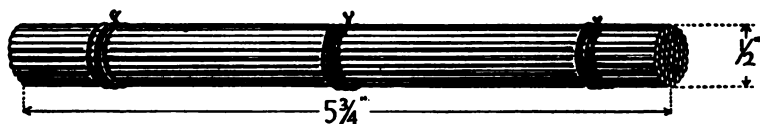
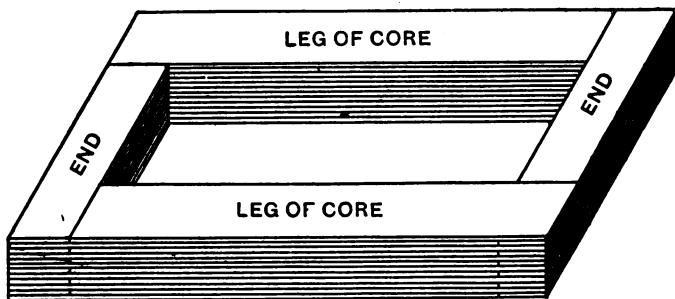
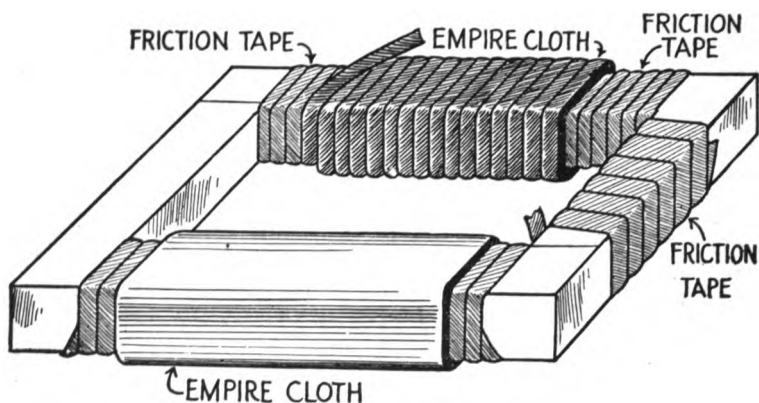

FIG. 178.—CORE OF COIL.
FIG. 189.—CORE OF TRANSFORMER.
FIG. 191.—HOW TRANSFORMER CORE IS INSULATED.
Having made the base your next move is to tackle the coil itself and you will find this part of the job very interesting and very particular. Buy  $\frac{1}{2}$  a pound of black soft iron wire about No. 18, 20 or 22 Brown and Sharpe gauge, at a hardware store and cut the wire up into pieces exactly  $5\frac{3}{4}$  inches long. When you have enough to make a bundle  $\frac{1}{2}$  inch in diameter straighten out each piece so that there are no kinks in it. Next put all the wires together with their ends even and tie them with a string so that a round core  $\frac{1}{2}$  inch in diameter will result as shown in Fig. 178.
Next slip one end of a No. 16 Brown and Sharpe gauge, double cotton-covered magnet wire—ordinary bell wire will do—which is 25 feet or a little longer, through the hole in the cheek that is nearest the core and leave about four inches hanging out. Wind a layer of wire on the core and give it a good coat of shellac. Wrap on a layer of paper and then wind on the second layer of wire and be sure to put it on tight. This will bring both ends of the primary wire out of the same cheek as shown in Fig. 189, and this cheek should be the one through which the end of the core projects. Wrap a couple of more layers of paper round the primary coil and shellac it.
Like an induction coil a transformer has a core of soft iron, a primary coil and a secondary coil, though nearly all induction coils have *straight* soft iron cores like that shown in Figs. 178 and 179, Chapter II, Part III, while nearly all transformers have *rectangular* soft iron cores, as that shown in Fig. 189.
**The Soft Iron Core.**—The core of the transformer is made up of very thin strips of soft sheet-iron laid up in the form of a rectangle as shown in Fig. 189. Sheet-iron such as is used for making stove-pipes will do for the core and this can be bought at a tinsmith's. Have him cut it for you to the exact width and length needed with his foot-power shears so that when the core is formed it will be nice and even.
After the core is laid up as shown in Fig. 189, wrap the two sides, or *legs* and one of the ends with *friction tape*. Friction tape is the kind of tape electricians use for taping wire joints. This kind of tape comes in rolls about  $\frac{1}{2}$  inch wide. Wrap this tape on the core tightly lapping the edges of the tape, as shown on one of the ends in Fig. 191.
Now cut some *empire cloth* into strips 8 inches wide and wind enough of the strips on each *leg* of the core to make the cloth insulation about  $\frac{1}{4}$  of an inch thick. *Empire cloth* is merely a linen cloth covered with an insulating varnish. Around the legs covered with the empire cloth wrap another layer of friction tape to hold it tightly together. The legs of the core are shown in Fig. 191 covered with the empire cloth strips.